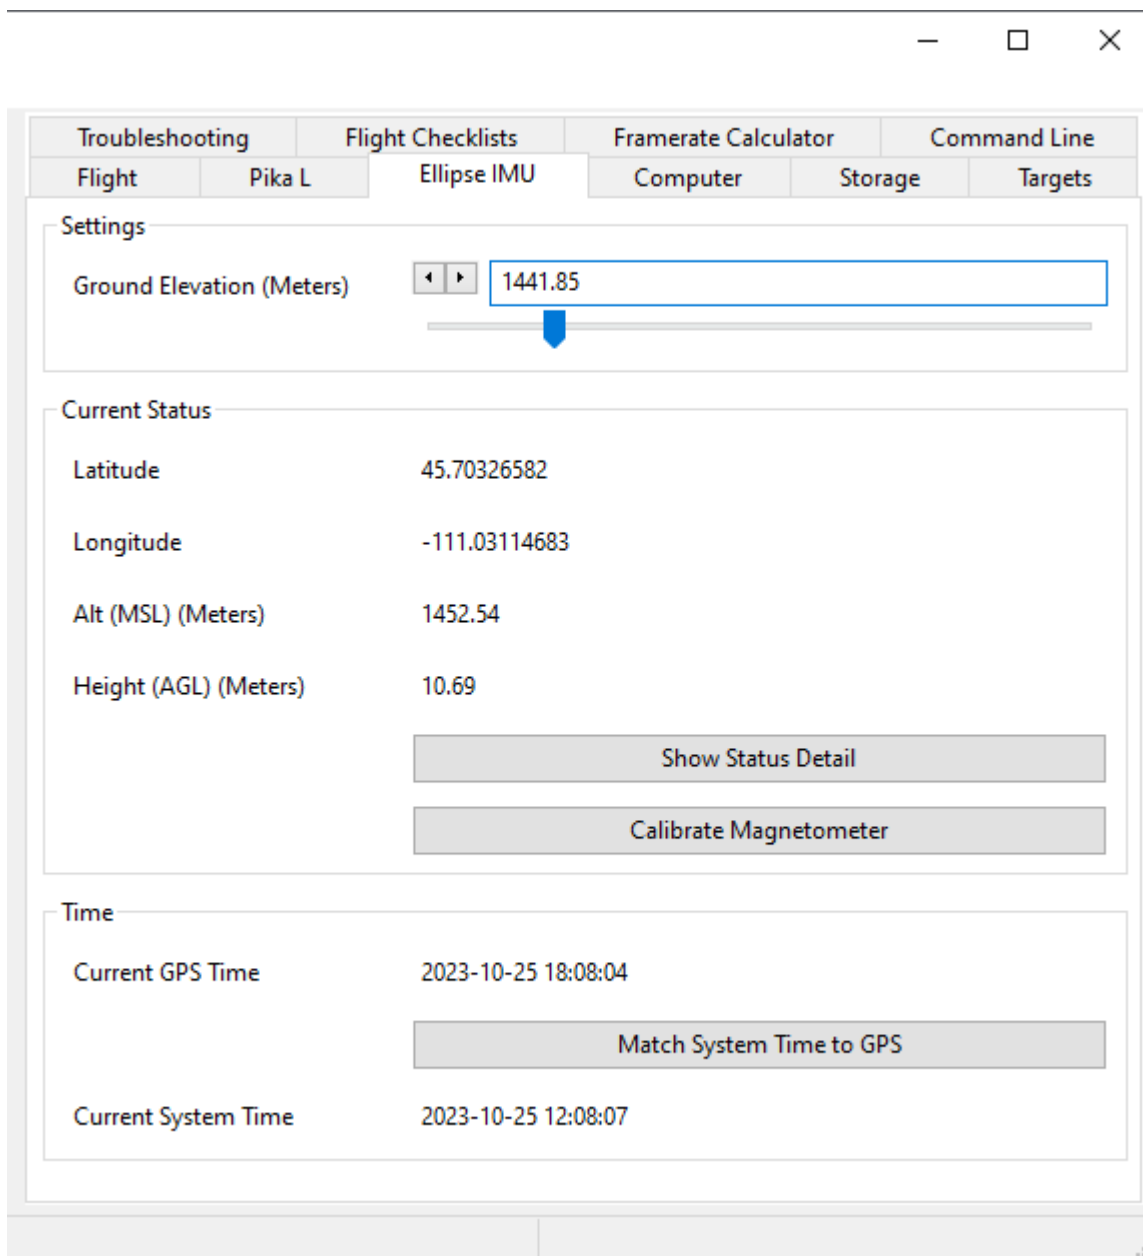
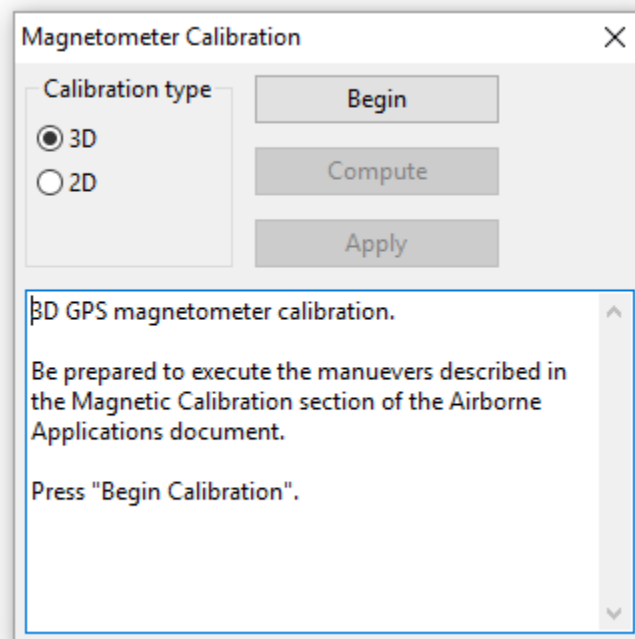

Fig. 3.12: The GPS/IMU Tab
Fig. 3.14: Ellipse Magnetometer Calibration Window
The *GPS/IMU Tab* (Fig. 3.12) shows the information relevant to the GPS/IMU system and serves as a check to the proper operation of the GPS/IMU system. The tab title reflects the actual imager type in use, commonly the Ellipse.
1. To perform a calibration, first press the *Calibrate Magnetometer* button on the *GPS/IMU Tab* (Fig. 3.12). The Ellipse magnetometer calibration window appears (Fig. 3.14). Choose a 2D or 3D calibration.